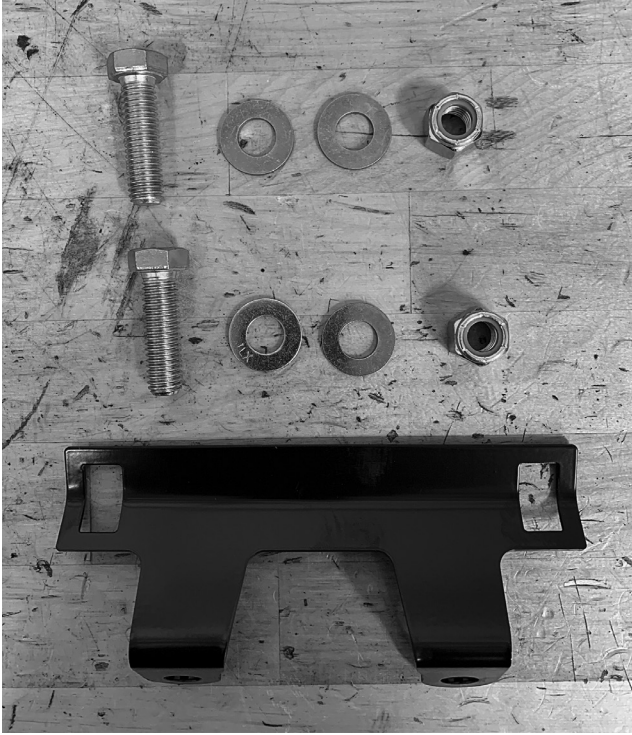

Figure 7: Install hardware shown
- To install the FOX shock, you will need to use the supplied hardware and reservoir mounting bracket. You should be using (1) reservoir bracket, (2) bolts, (2) nuts, and (4) washers per shock (Figure 7).